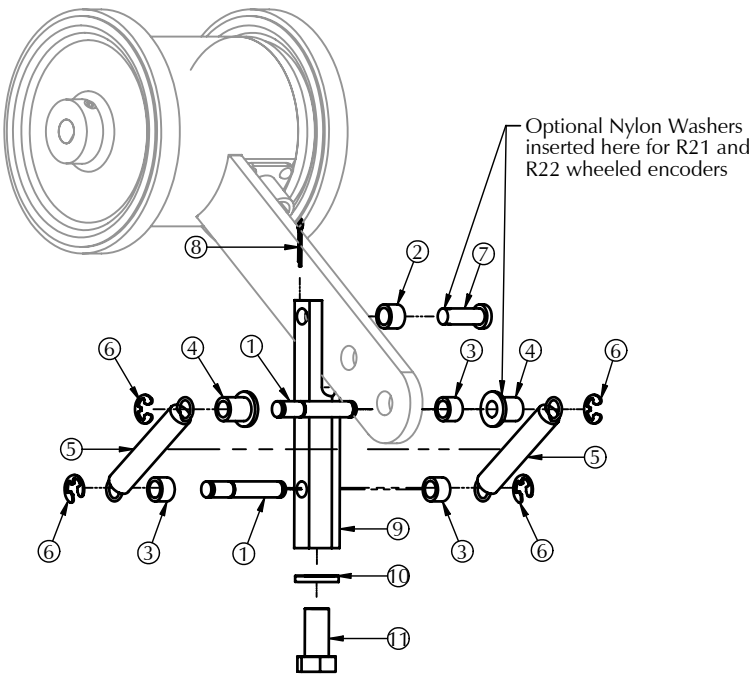

Figure 2: MB-UB4 Component Detail
1. Assemble the MB-UB4 components onto the encoder as shown in figure 2. Note: when ordered with an encoder as an assembly, the MB-UB4 is preassembled onto the encoder to simplify installation.
The MB-UB4 includes these parts (See figure 2)